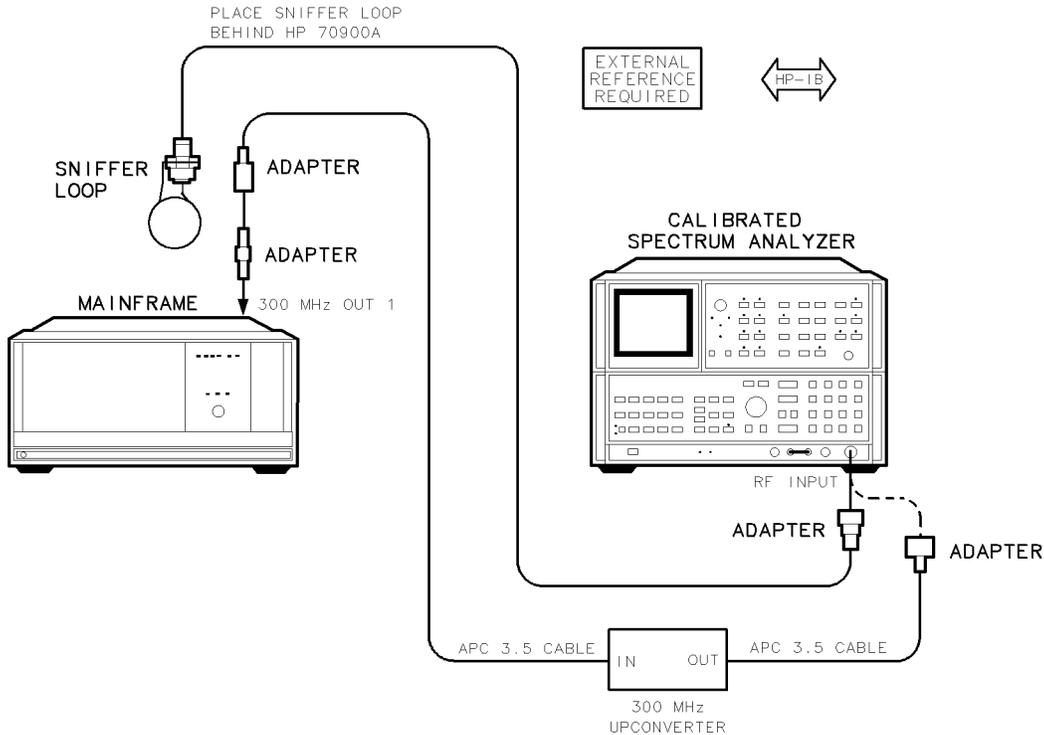

Figure 7-24. 300 MHz Reference 40 kHz Sidebands Test Setup
1. Connect the HP 8566B spectrum analyzer's RF INPUT to the DUT's 300 MHz OUT #1 using the adapters and the APC 3.5 cables, as shown in Figure 7-24.
2. Connect the sniffer loop to the spectrum analyzer's RF INPUT using the adapter, as shown in Figure 7-24